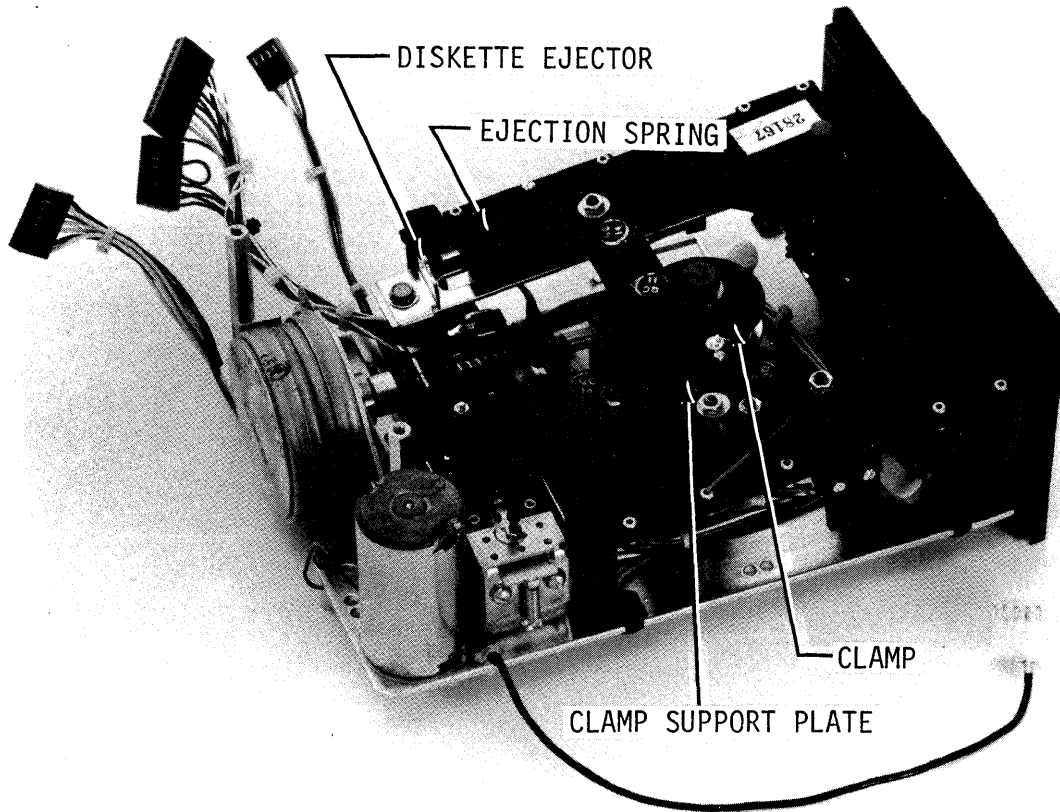

Figure 6-9. Clamp and Clamp Support Plate
- a. Remove the two clamp support plate retaining nuts and washers (see figure 6-9).